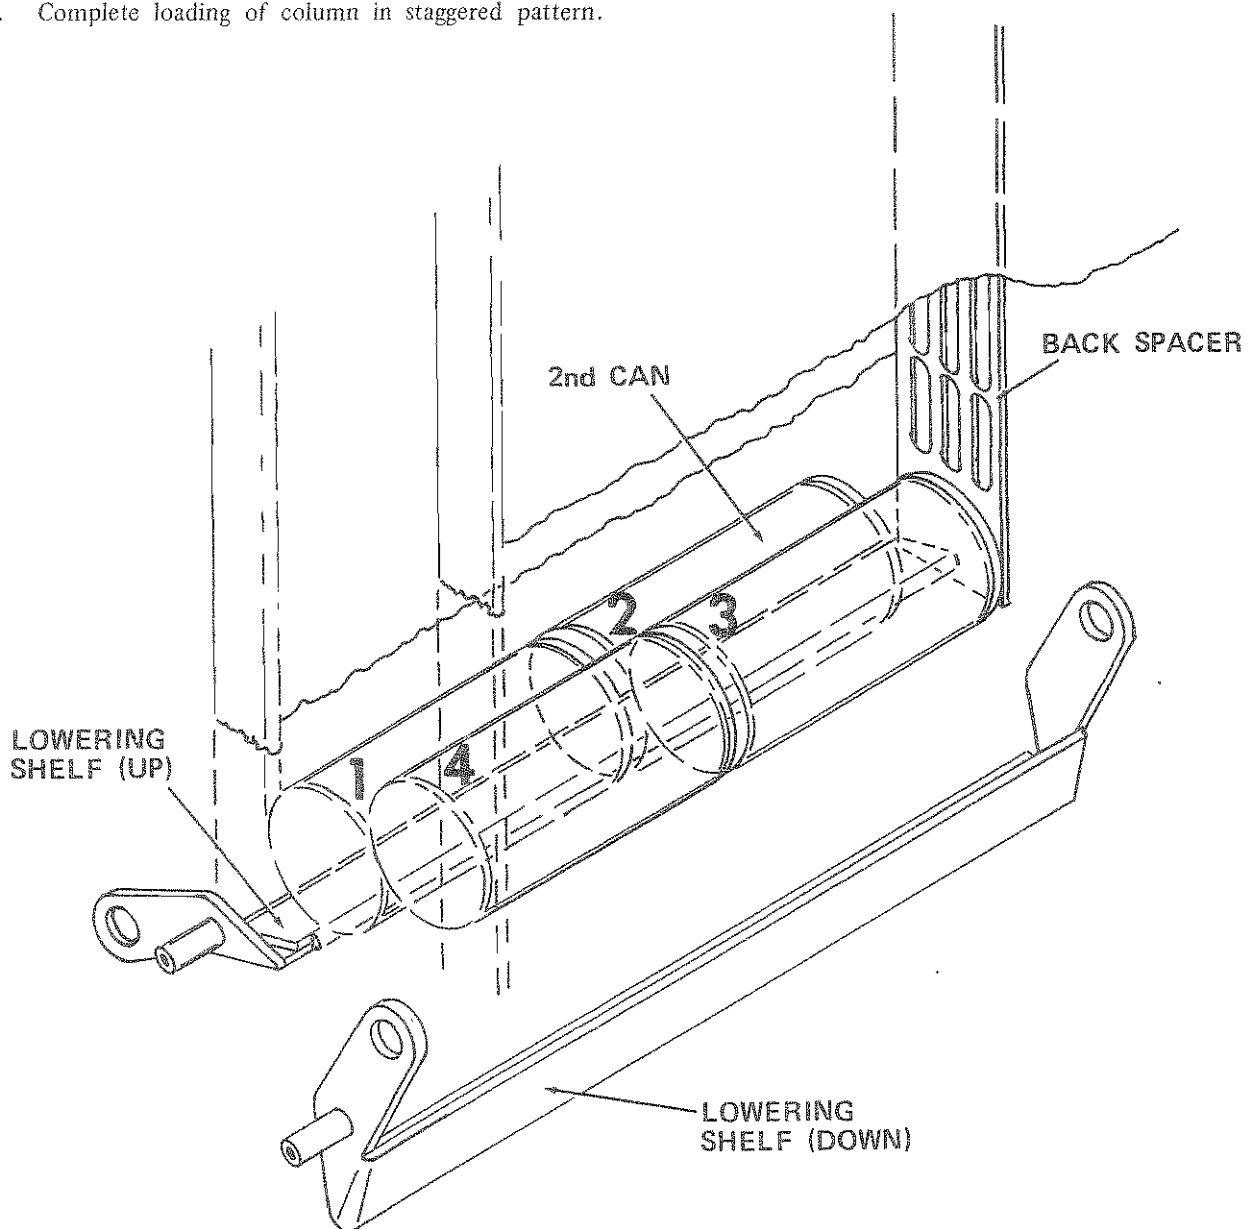

Figure 17
2. Load two (2) cans on the lowering shelf which is in the up position (place 1st can on a shelf as far forward as possible, then load 2nd can on same shelf directly behind 1st can) (See Figure 17),
4. Load next two (2) cans on opposite side of column in same manner. Continue to load cans in staggered pattern (approximately 12 cans).